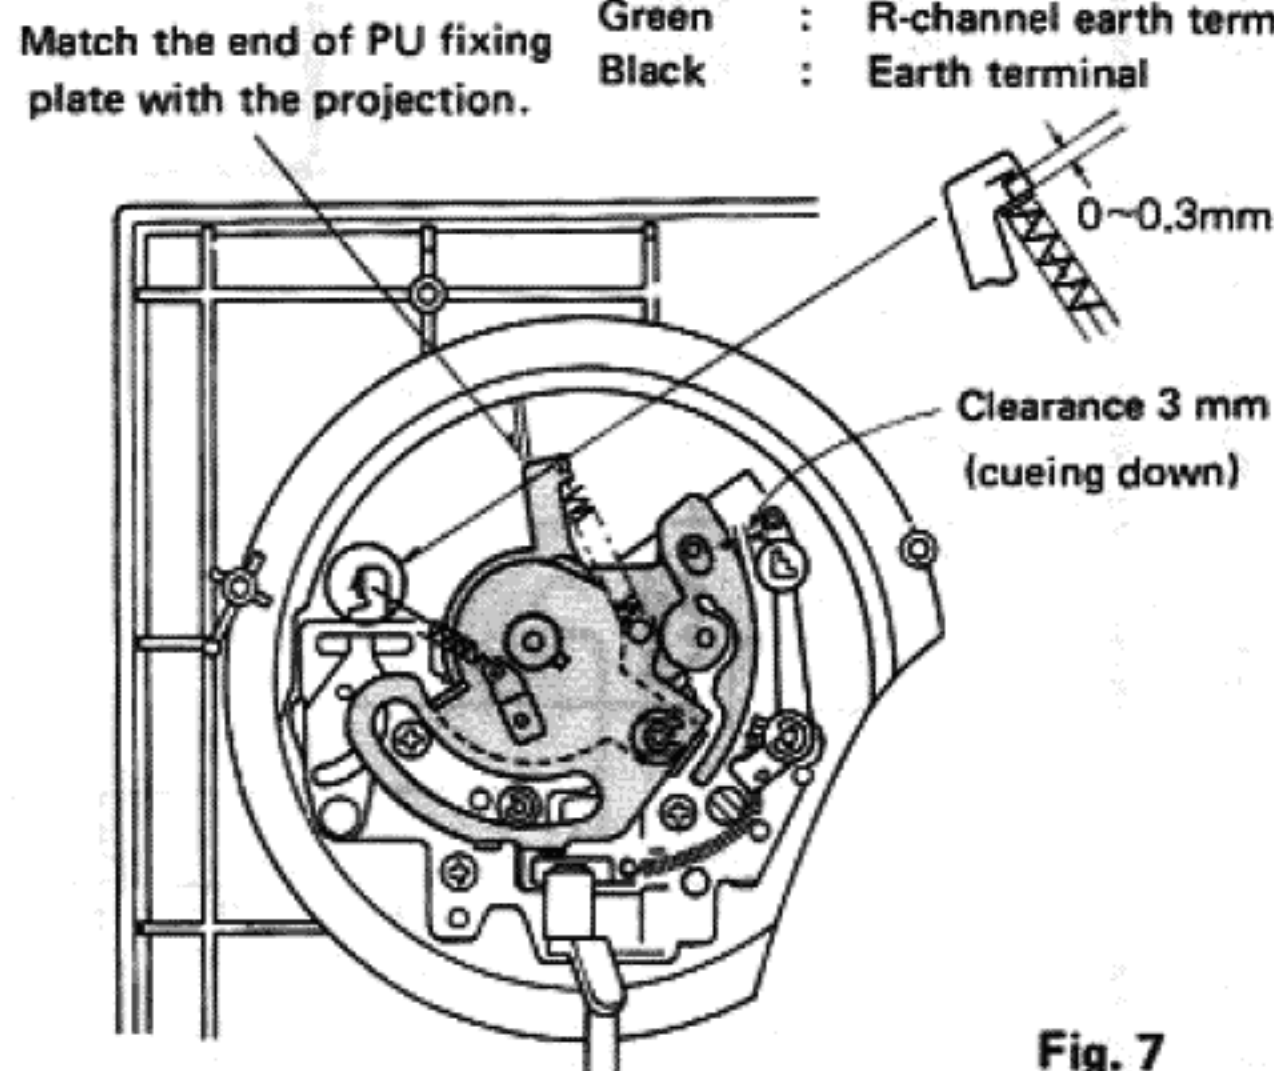

Fig. 7
3. When fitting the PU fixing plate, match the PU fixing plate with the projection of the cabinet and tighten the screw ④. (Fig. 7)
4. After fitting the canceller spring, set the anti-skating control knob to zero and shift the tonearm to the innermost periphery. Then make sure that the clearance between the canceller spring and canceller operation plate is 0~0.3 mm. (Fig. 7)